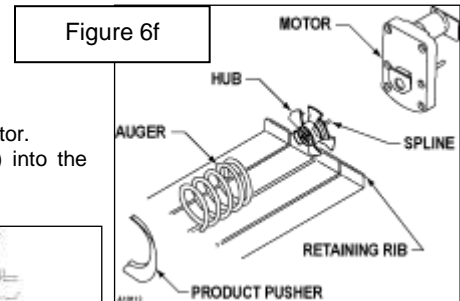

Figure 6f
1. Remove the motor cover. See Figure 6f.